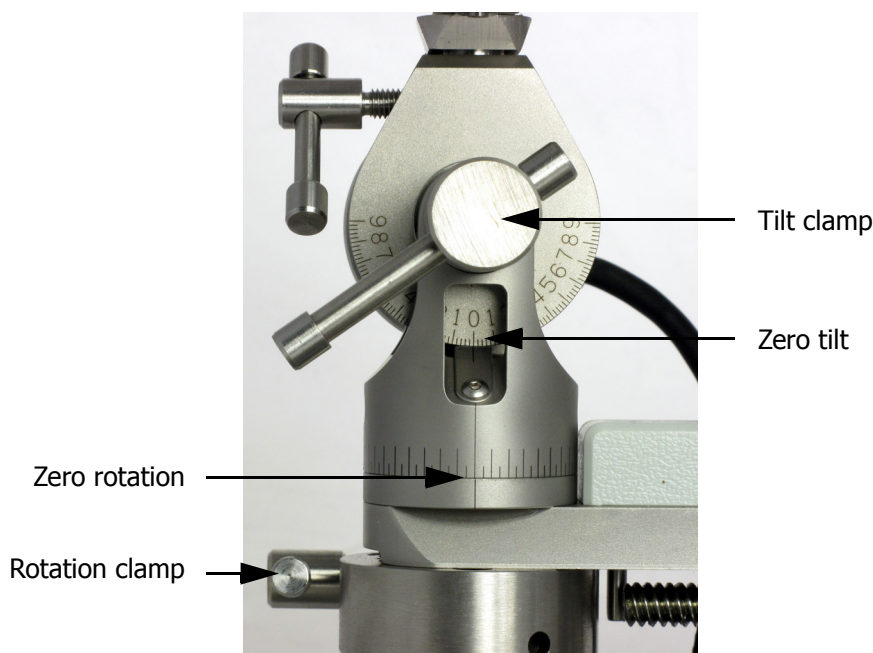

Figure 35. Both the tilt and rotation are at zero
1. Unlock the tilt and rotation clamps, and move the instrument so the scales read zero, as shown in Figure 35.
- (i) Loosen the rotation clamp (see Figure 35) and carefully adjust the manipulator into a new position.
- (i) Loosen the tilt clamp (see Figure 35) and carefully move the manipulator into a new position.
- (i) Loosen the tilt clamp (see Figure 35) and slightly adjust the manipulator into a new position.